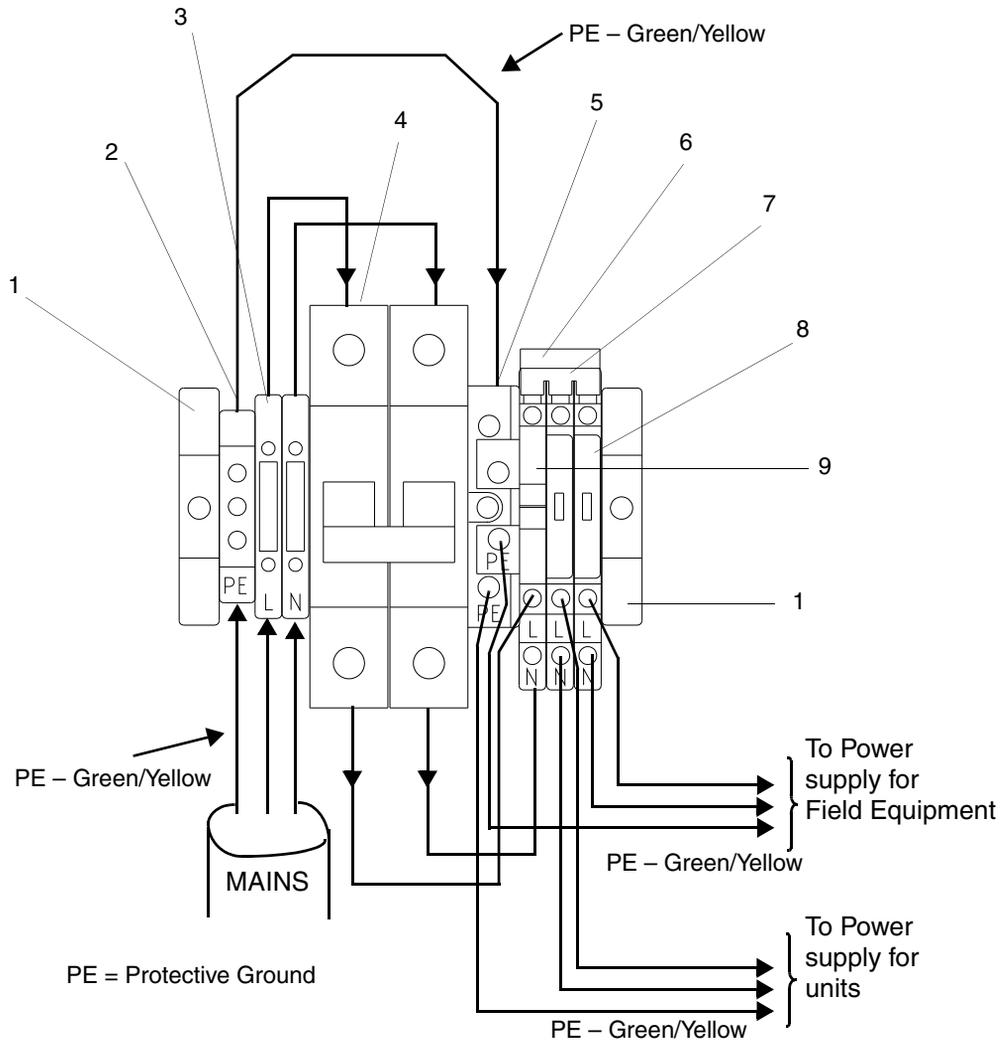

Figure 42. Installation of Mains Breaker Assembly
1. Mount the mains breaker unit components onto the DIN-rail, from left to right, close to the incoming power supply, in the order given below (see Figure 42 on page 135).
- a. A DIN-rail end-stop (1).
- b. The terminal for the incoming protective ground (2).
- c. The two terminals for the incoming Live and Neutral mains power (3). These terminals are equipped with built-in jumpers which, if necessary, can be opened to provide complete mains input power isolation.
- d. The miniature mains breaker unit (4).
- e. The protective ground distribution terminal (5).
- f. The mains distribution terminal block (6), depending on the required configuration.
- g. A DIN-rail end-stop (1).
2. Connect the incoming mains, the protective ground terminals, the mains breaker and the distribution terminals as shown in Figure 42 on page 135.
3. Install the two required links (7), fuse holders (8) and jumpers (9) onto the distribution terminals. Fit the required fuses into the fuse holders, (glass tube type, 5 x 20 mm (0.2 x 0.8 in)).